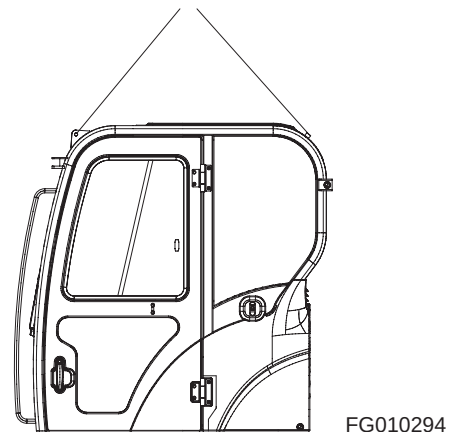

Figure 8
16. Using a suitable lifting device, attach slings to three lift points on top of cabin (Figure 8).
1. Using a suitable lifting device, attach slings to three lift points on top of cabin (Figure 8).